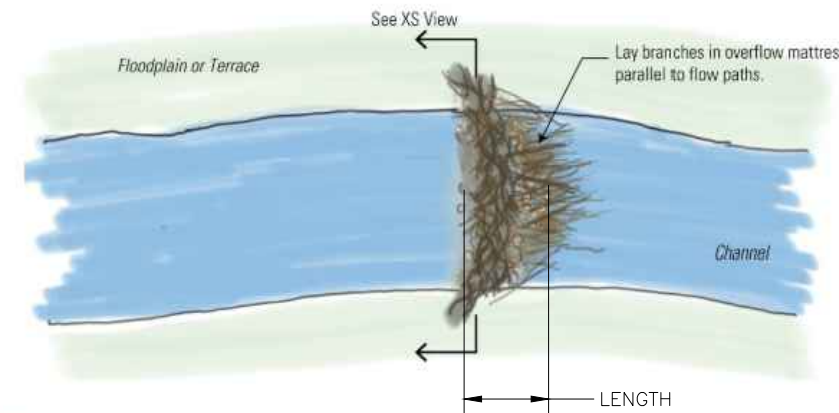

Figure 32 - Typical schematic sketches of a postless BDA with key pieces used in base.
- a. If larger key pieces (i.e. larger logs, cobble or small boulders) are locally abundant, these can be used to lay out the crest position across the channel (as in Figure 32). Optionally, they can be 'keyed' in by excavating a small trench (no need to be deeper than ~1/3 of the height of key piece diameter) and place key pieces in and pack with excavated material.
- For Step 2a, it is not necessary to build with larger key pieces (as in Figure 32) and plenty strong with a mix of smaller woody material and fine fill material (e.g., Figure 30). If woody key pieces are used, make sure to at least limb (cut off branches) on side in contact with bed.